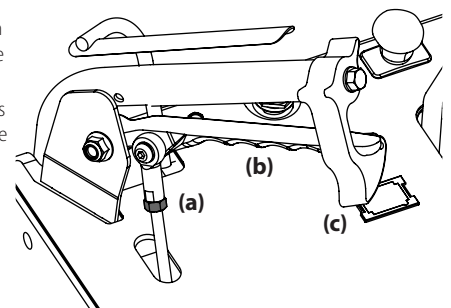

Figure 29
6. Loosen the jam nut (a) and adjust the rod until the steering lever (b) is seated in the neutral lock lever (c). See Figure 29.